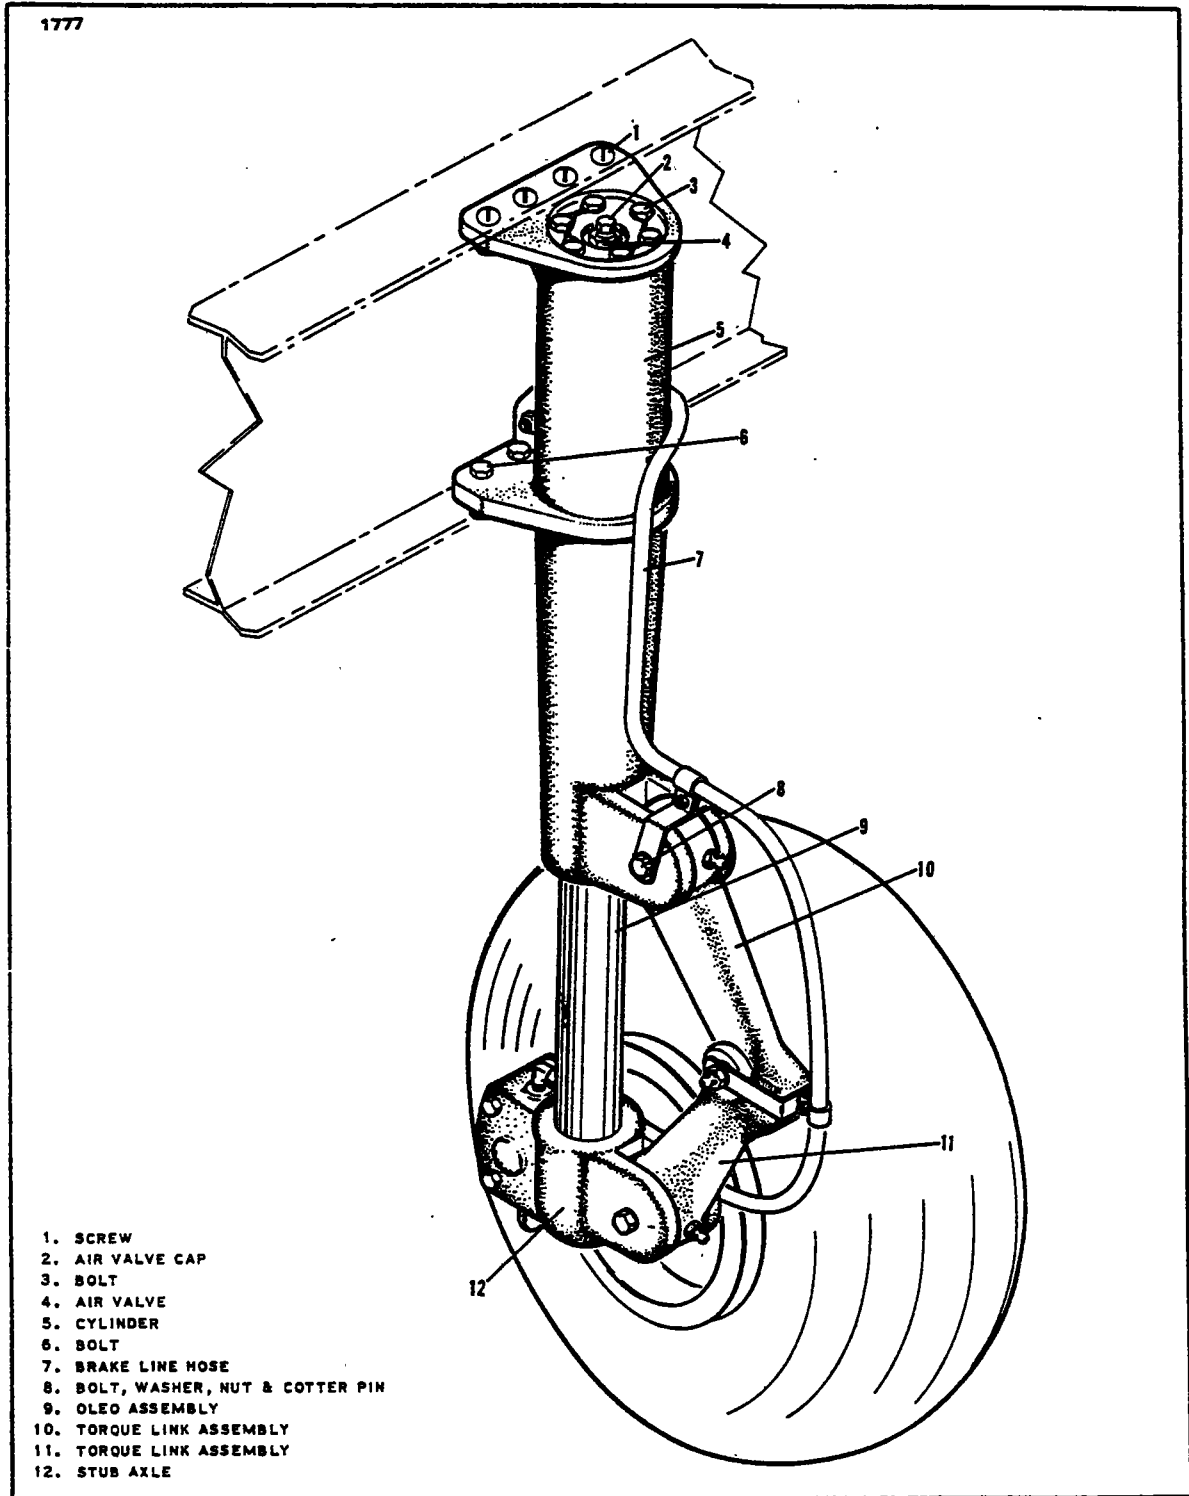

Figure 7-7. Main Gear Installation
### 7-18. REMOVAL OF MAIN LANDING GEAR. (Refer to Figure 7-7.)
**7-20. INSTALLATION OF MAIN LANDING GEAR. (Refer to Figure 7-7.)**